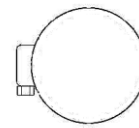

FIGURE 3C
17. Place left rear heatshield in position on the crossover pipe on the left side of the motorcycle. See Figure 3C for left side clamp alignment. Check for clearance around the drive belt before securing the hose clamps. **Do not fully tighten** the hose clamps.